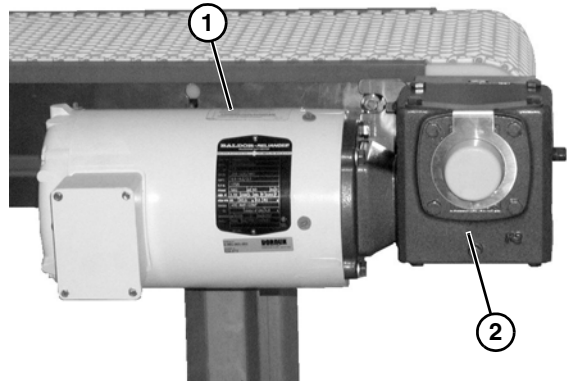

Figure 32
1. Attach the motor (**Figure 32, item 1**) to the gear reducer (**Figure 32, item 2**).